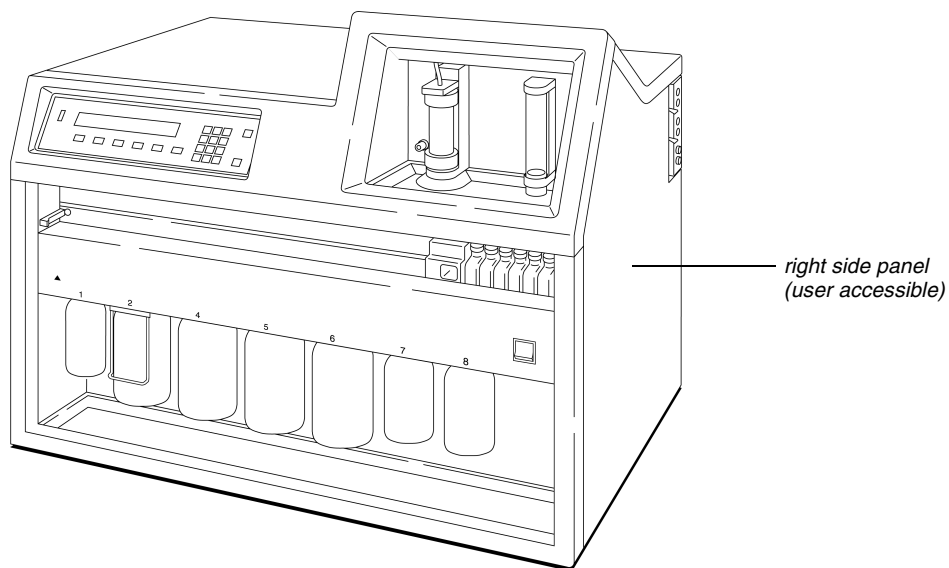

Figure 3-1. ABI 431/433 showing location of right side (user accessible) panel
1. If you have not already done so, remove the right side panel from the instrument. Refer to Figure 3-1 to identify the correct panel to remove.